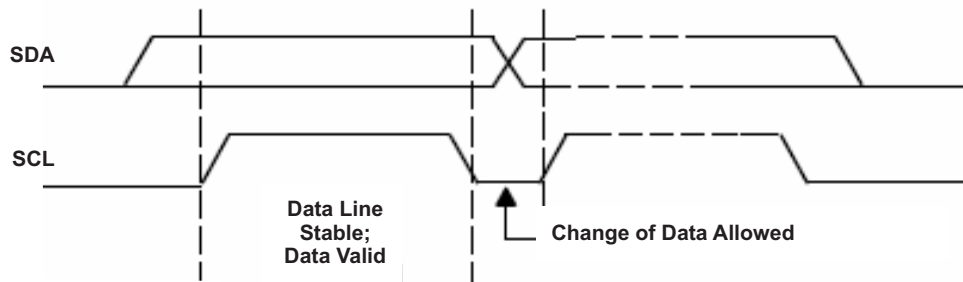
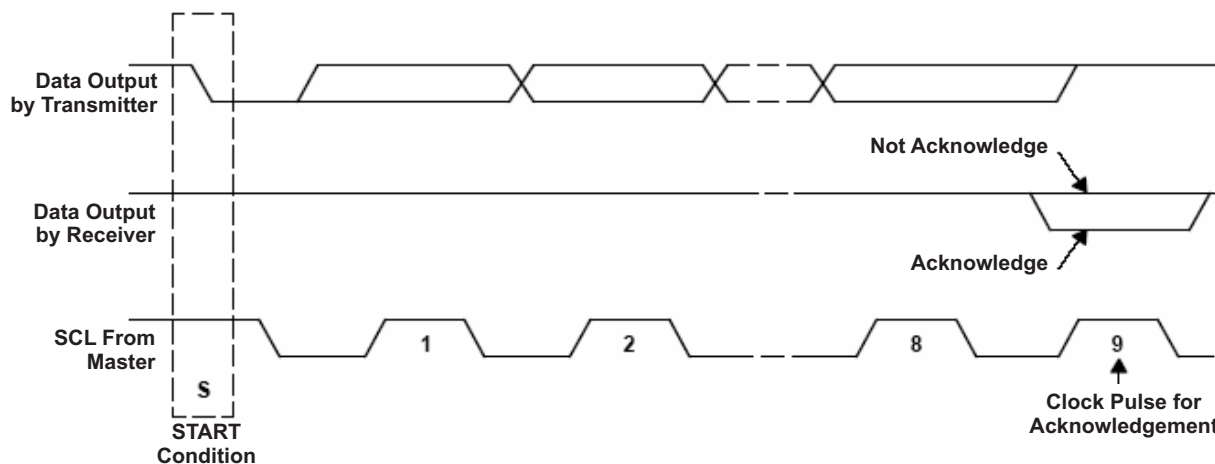

Figure 27. I2C Bit Transfer
Figure 28. I2C Acknowledge
- The *master* initiates data transfer by generating a *start condition*. The *start condition* is when a high-to-low transition occurs on the SDA line while SCL is high, as shown in Figure 28. All I2C-compatible devices should recognize a *start condition*.
- The master then generates the SCL pulses and transmits the 7-bit address and the *read/write direction bit* R/W on the SDA line. During all transmissions, the master ensures that data is *valid*. A *valid data condition* requires the SDA line to be stable during the entire high period of the clock pulse (see Figure 27). All devices recognize the address sent by the master and compare it to their internal fixed addresses. Only the slave device with a matching address generates an *acknowledge* (see Figure 28) by pulling the SDA line low during the entire high period of the ninth SCL cycle. On detecting this acknowledge, the master knows that a communication link with a slave has been established.